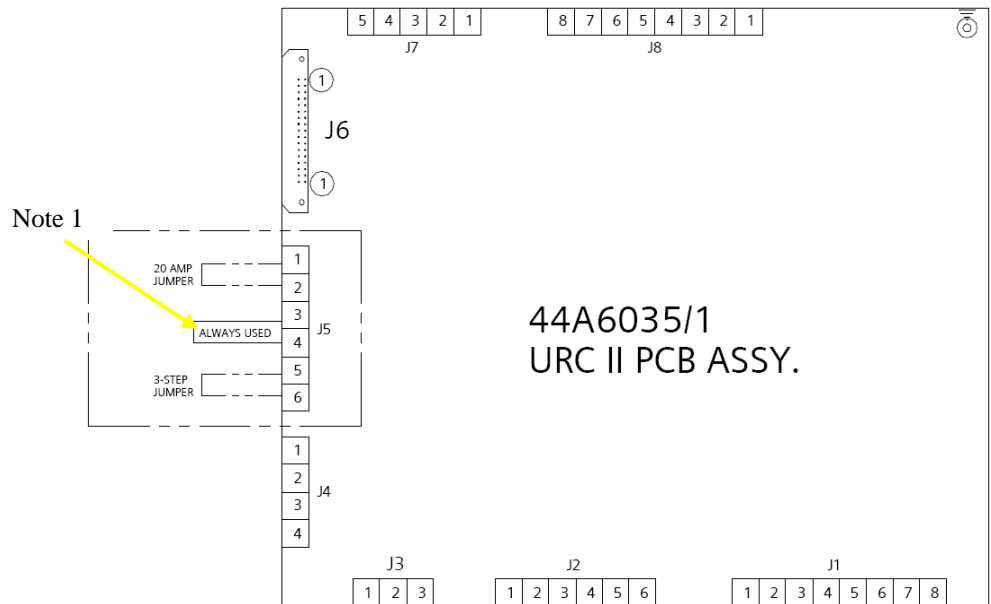

Figure 9: Drawing of URC2 Board
- In the Kit supplied locate the 6 Pin Phoenix Connector that plugs into J5 of the URC2 board, and attach a wire jumper from Pin 3 to Pin 4 as shown by Note 1 in Figure 9. Also if the regulator is a 3 step regulator, another jumper is placed in Pins 5 and 6 is required as shown. Finally, if the regulator is a 20A version, another jumper is required from Pin 1 to Pin 2. Insert J5 into URC2 Board.